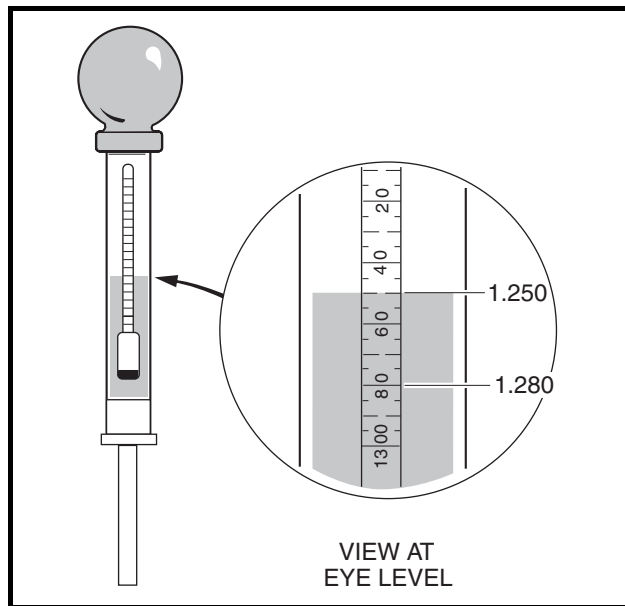

Figure 13-4 Hydrometer
5. Hold the hydrometer vertically, ensuring that the float is not touching the sides of the barrel. Hold the hydrometer at eye level and read the scale at the level of electrolyte (**Figure 13-4, Page 13-8**).